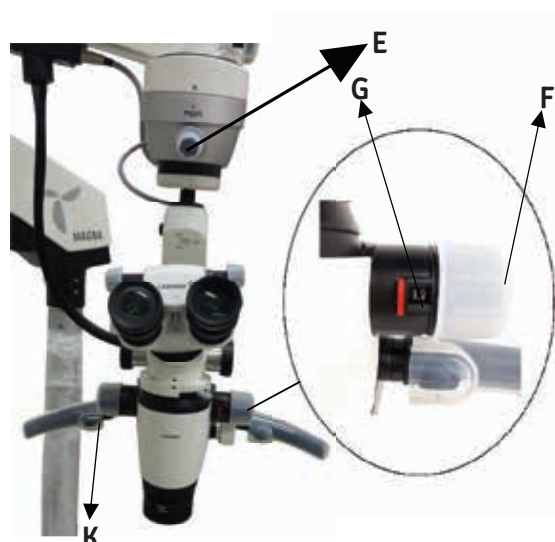

Fig. 20
- Use the knobs (F) Fig 20 provided on the Magnichanger to select the desired magnification level.
- a. Refer Fig. 20 Pressing the Red click button (G) located besides the Magnification indicator will select the 8 step magnification. Pressing the same Red click button from reverse side to select the magnification in continuous zoom.